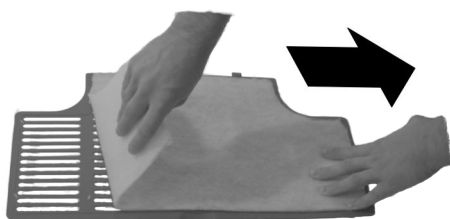

Fig. 29: Removing the cleaning filter
2. ➤ Remove the old cleaning filter (Fig. 29).